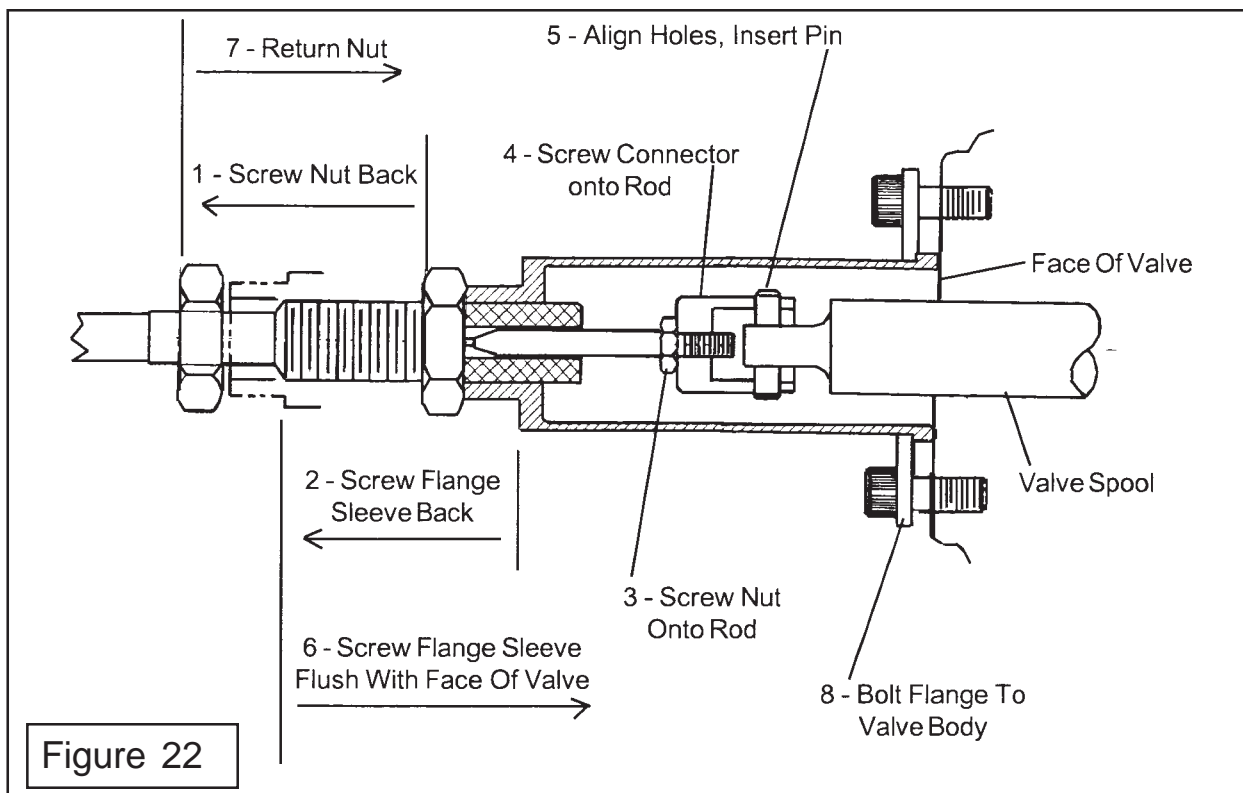

Figure 22
4. Gaskets on Valve Terminals. There are 5 wire terminals on Valve, A Gasket will have to installed on each one. These gaskets will only fit one way, there are 4 slots in gasket. 1 Slot is wider than the other 3, align these slots with correct terminal on Valve. (See Figure 22 & 23). These Gaskets must be used.